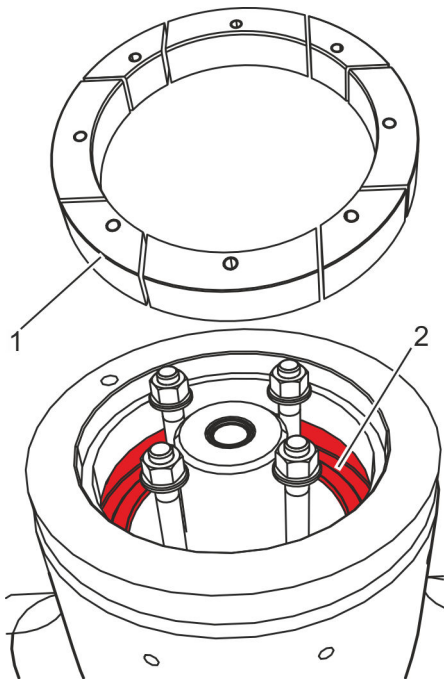

Fig. 21: Inserting segments
- 14.▶ Insert the segment ring's segments (Fig. 21/1) into the body groove (Fig. 21/2).